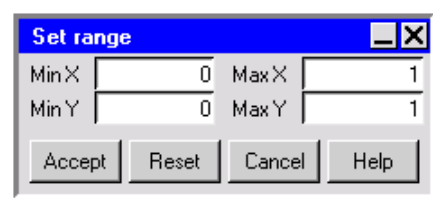

Figure 9.10.6: The Set range Panel
- To set the minimum and maximum values for the scales on the axes, click on **Set range**. This will open the **Set range** panel (Figure 9.10.6). Enter values for **Min X**, **Min Y**, **Max X**, and **Max Y** and click **Accept**.